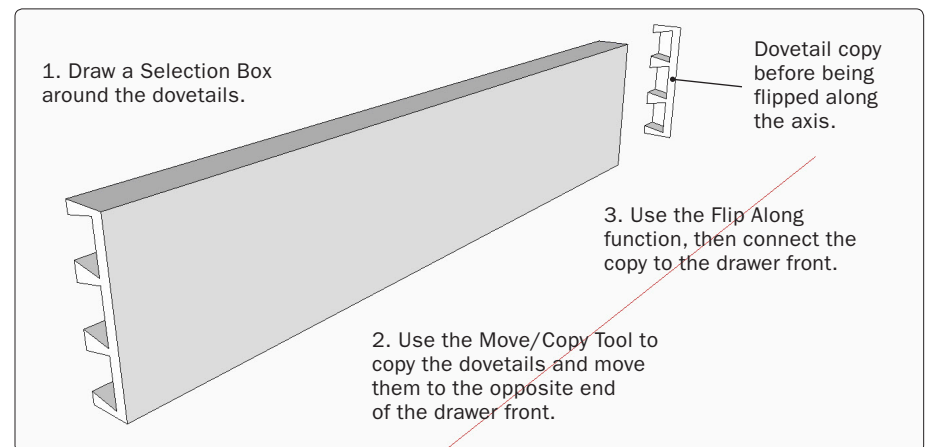

Figure 64. Copy the half-blind dovetails to the other end of the drawer front.
Step 52 Select the dovetail sockets and use the Move/Copy Tool to copy and move them to the opposite end of the component, as shown in Figure 64. It's